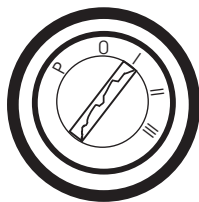

Figure 13. Ignition Switch
2. Insert ignition key into ignition switch (Figure 13), turn ignition key clockwise to position I, and verify that all three status indicator lights (Figure 14) are **ON**.